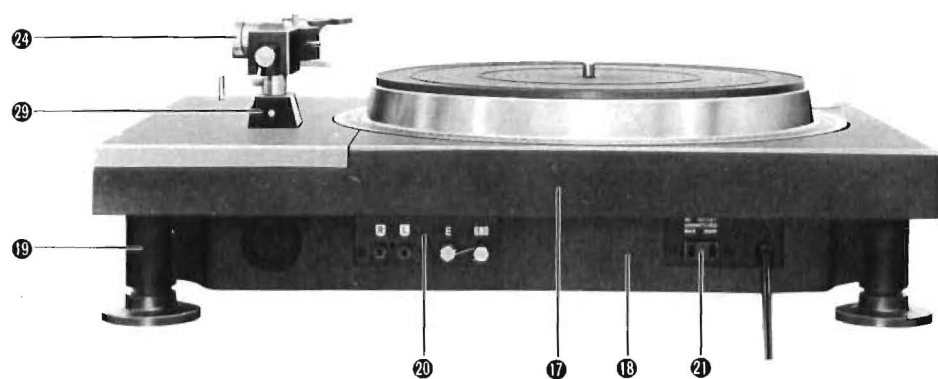
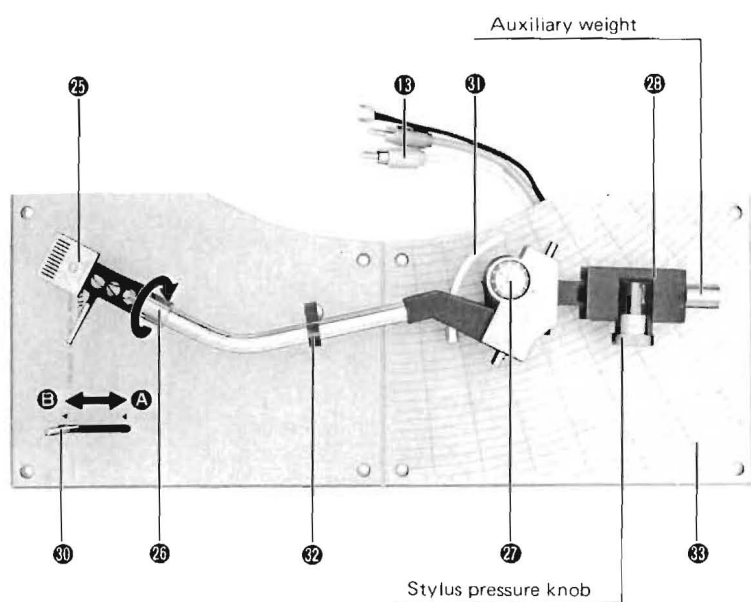
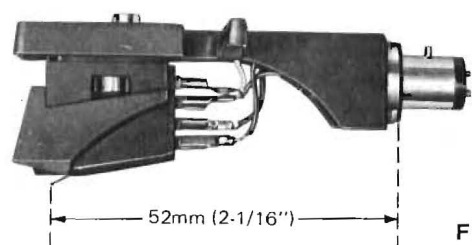
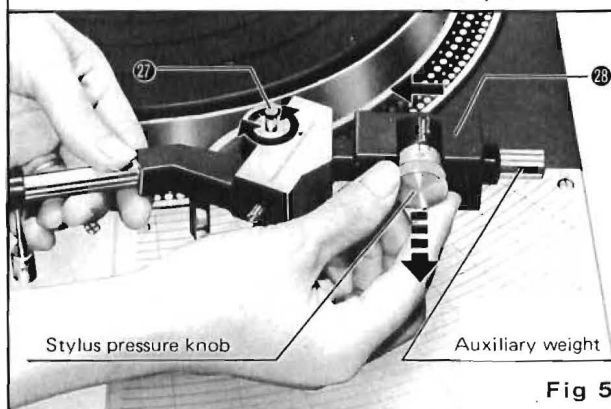

Fig 2
Fig 3
Fig 4
Fig 5
⑰ PLAYER CABINET (See Fig.2- ⑰)
⑱ BOTTOM COVER (See Fig.2- ⑱)
⑲ AUDIO-INSULATED LEGS (See Fig.2- ⑲)
⑳ OUTPUT TERMINALS (See Fig.2- ㉔)
㉑ AC OUTLET **B** (See Fig.2- ㉑)
24 TONEARM (See Fig.2- 24 , Fig.3)
25 HEAD SHELL (See Fig.3- 25 , Fig.4)
26 LOCKING NUT (See Fig.3- 26)
27 ANTI-SKATING FORCE DEVICE (See Fig.3- 27 , Fig.5)
28 BALANCE WEIGHT (See Fig.3- 28 , Fig.5)
29 ARM BASE (See Fig.2- 29)
30 CUEING LEVER (See Fig.3- 30)
31 ARM LIFT (See Fig.3- 31)
32 ARM REST (See Fig.3- 32)
33 ARM PANEL (See Fig.3- 33)